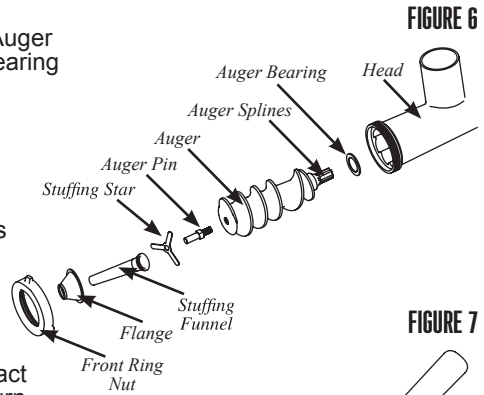

FIGURE 6
3. Insert the Auger, with the Auger Bearing attached, into the Head **(FIGURE 6)**. Align the Auger Splines with the Drive Shaft of the Grinder.